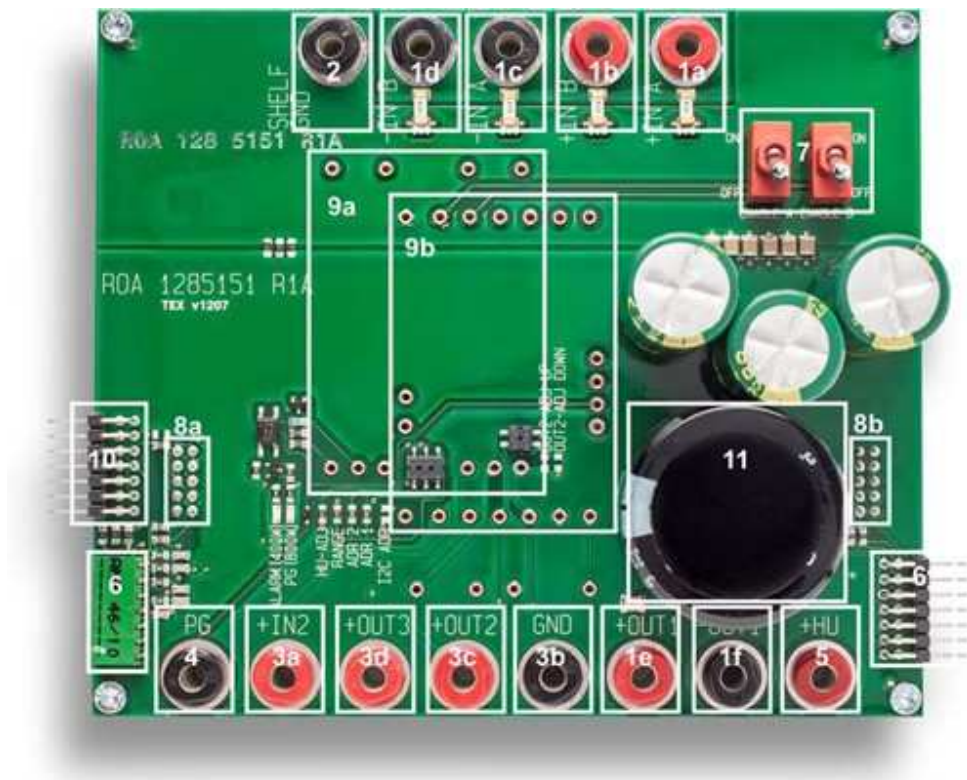
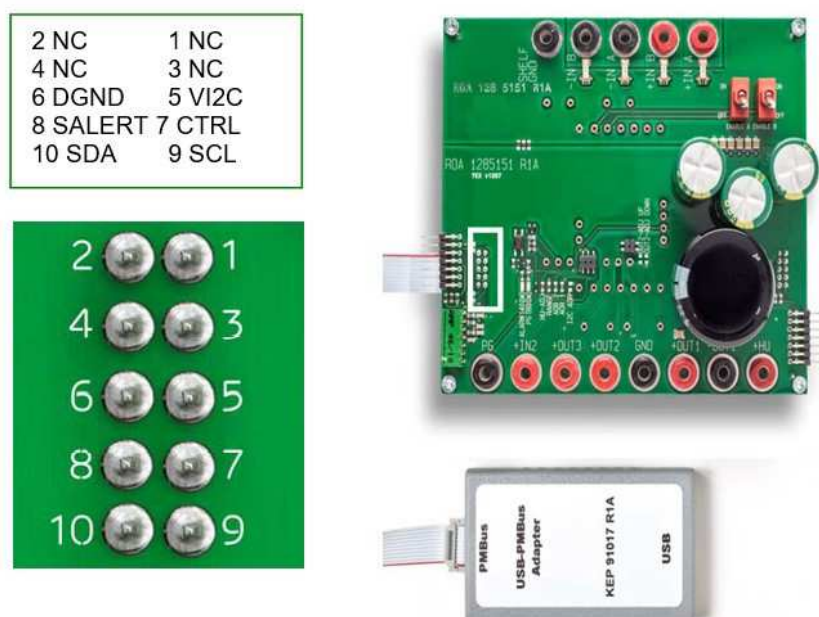

Figure 1. ROA 128 5151 (top side).
Figure 3. Connection of the Flex Power KEP 910 17 PMBus-to-USB adaptor.
Power the board by connecting 36-75 V DC power to the “+IN A” and “-IN A” and/or “+IN B” and “-IN B” connectors (see 1a-1d, Figure 1). Enable switches A and B should be in **OFF** position (see 7, Figure 1).
With an external power supply PIM 4820's management power (see 3c in Figure 1) can handle larger loads, for more information see the technical specification for the PIM product.
The external power supply shall be connected between +IN2 and GND (see 3a-3b, Figure 1). it shall be at least 1.5 V above the +OUT2 voltage (see 3c, Figure 1) and max 14.4 V.
Connect the Flex Power KEP 910 17 PMBus-to-USB adaptor as shown in Figure 3. Connector is found on reverse side of the ROA 128 5151 board (see 8a, Figure 1).
- **Mount** the **PIM** products in the position (see 9b, Figure 1).
- Make sure the enable switches are in **OFF** position (see 7, Figure 1).
- **Mount** the **PIM** products in the position (see 9a, Figure 1).